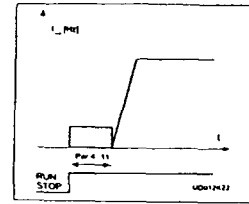

Figure 4-5-17 DC braking time at start
- >0 DC brake is active when the start command is given. The parameter defines the time before the brake is released. After the brake is released the output frequency increases according to the set start function parameter 4.6 and the acceleration parameters (1.3, 4.1 or 4.2, 4.3). See figure 4-5-17.